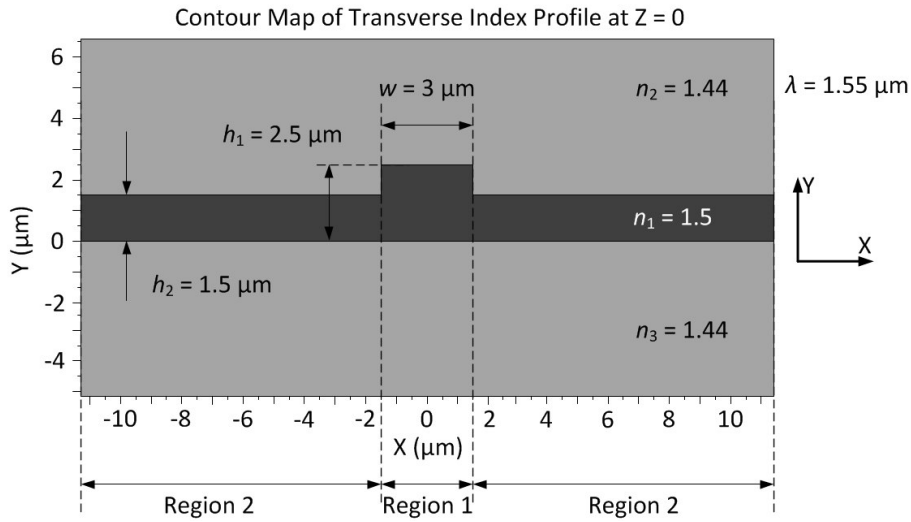

Figure 1: Rib waveguide with the definition of the dimensions and the refractive indices.
Consider the rib waveguide shown in Fig. 1. The effective index of the guided modes of this waveguide can be calculated by approximating the structure with related slab waveguide. In a first step, we need to calculate the effective indices of two horizontal slab waveguides of different thicknesses, corresponding to the slab heights in the regions 1 and 2, as indicated in the figure. We will then use these indices to define a new vertical slab waveguide. The solution of that waveguide will give the effective index of the rib waveguide mode.
- a) Assume a wavelength of $1.55 \mu\text{m}$, and consider the \mathcal{E}_y -modes only. Choose the appropriate polarization and calculate the effective indices $n_{\text{es}1}$ and $n_{\text{es}2}$ in the two horizontal slab waveguides corresponding to the regions 1 and 2 in Fig. 1. You can either use the matlab code you already prepared in the Problem Set 4, or the online solver available on the following website: